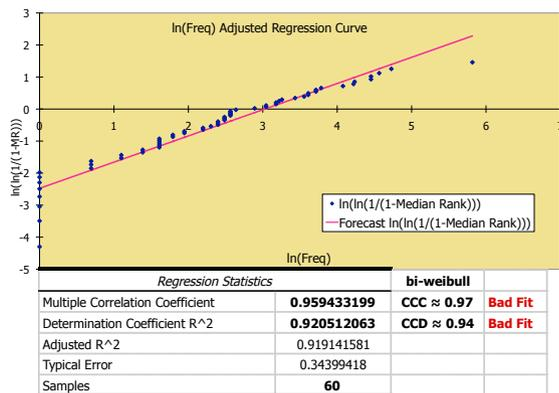

Figure 7 - Regression line for data set #1 (period #1) - raw f/s filtering criteria
mum squares method. Figures 7, 8 and 9 show the regression lines.
- The dot distributions at the regression line graphs (concavities at Figures 7, 8 and 9) may imply the presence of more than one failure mode and also increasing (in amount) at each new restoration.